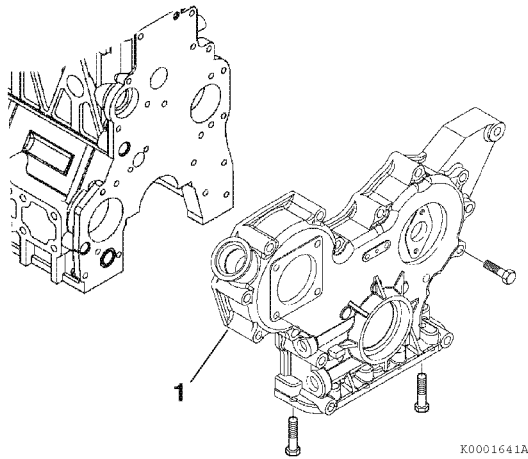

Figure 6-103
1. Apply a continuous bead of ThreeBond Liquid Gasket No. 1207F, YANMAR Part No. 977770-1207F to the mounting area of the gear case cover (Figure 6-103, (1)). Be sure to circle the bolt holes.